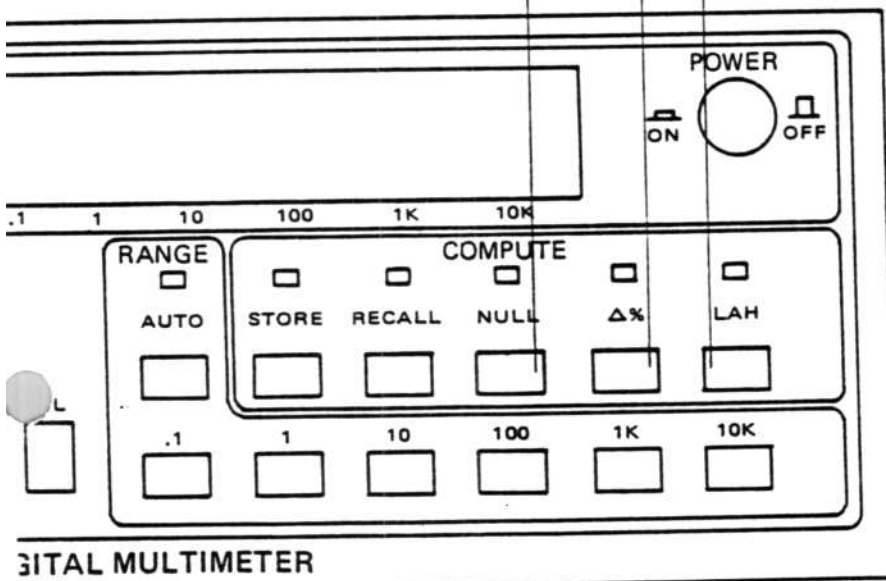

Figure 5.2 - Non-Volatile Memory Entry Keys
- d) Three input keys on the keyboard which perform the UP count, DOWN count, and NOMINAL functions are described below. Refer to Figure 5.2.